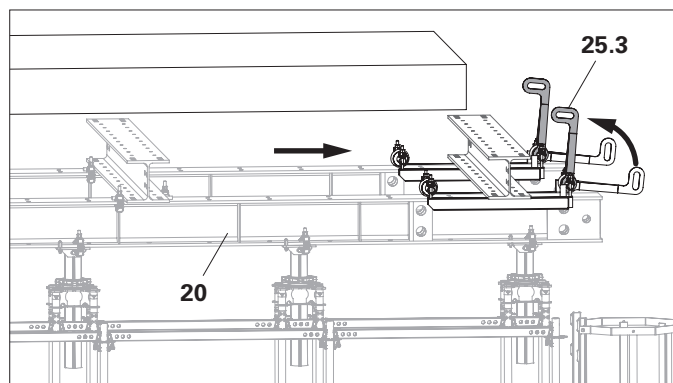

Fig. A7.09a
4. At the end position, swivel the lever **(25.3)** upwards to lower the cross girder again. (Fig. A7.09a)